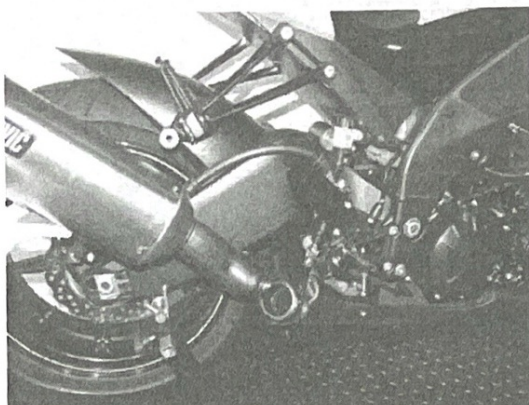

Figure 44
9. **For open SLIP-ON (without exhaust valve) only:** position the muffler with welded link-pipe correctly, slide it into the outlet side of the link pipe (or catalytic converter box outlet) and attach the spring (**Figure 44, 45**). Attach the carbon-fiber clamp onto muffler bracket using stock bolt, nut and Akrapovic washer as shown in figures (**Figure 46, 47, 48**). Tighten the metal clamp of link pipe/collector joint (**Figure 49**). **For SLIP-ON with optional link-pipe only:** Tighten the Akrapovic metal clamp of optional link pipe/link pipe joint (**Figure 50**). Make sure the link pipe or muffler are not touching the swing arm or any other part of the motorcycle.